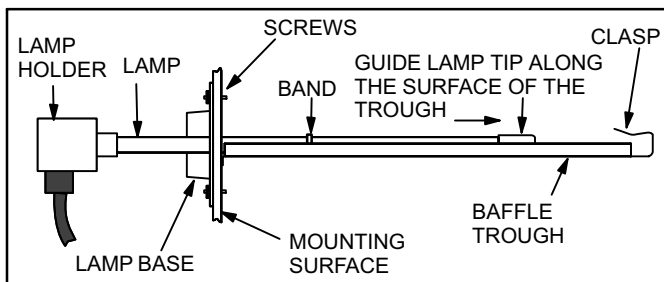

Figure 9. Guiding Lamp into Shielding Baffle
4. Be careful not to disturb the band in the center of the lamp. Insert the assembled lamp holder into the lamp base. **If lamp shielding baffle is used**—Be sure the far end of the lamp rides in the baffle's trough and engages in it's clasp (see figure 9).